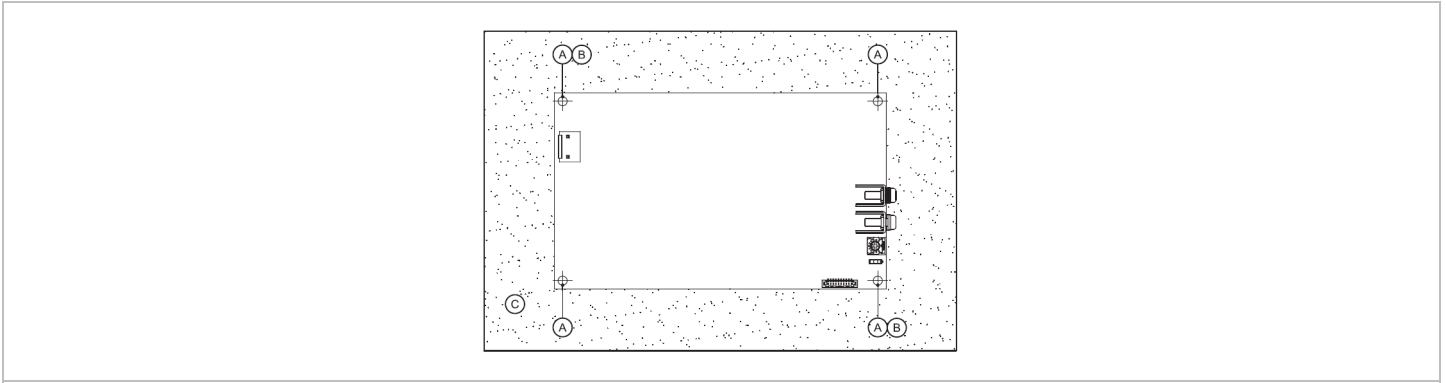
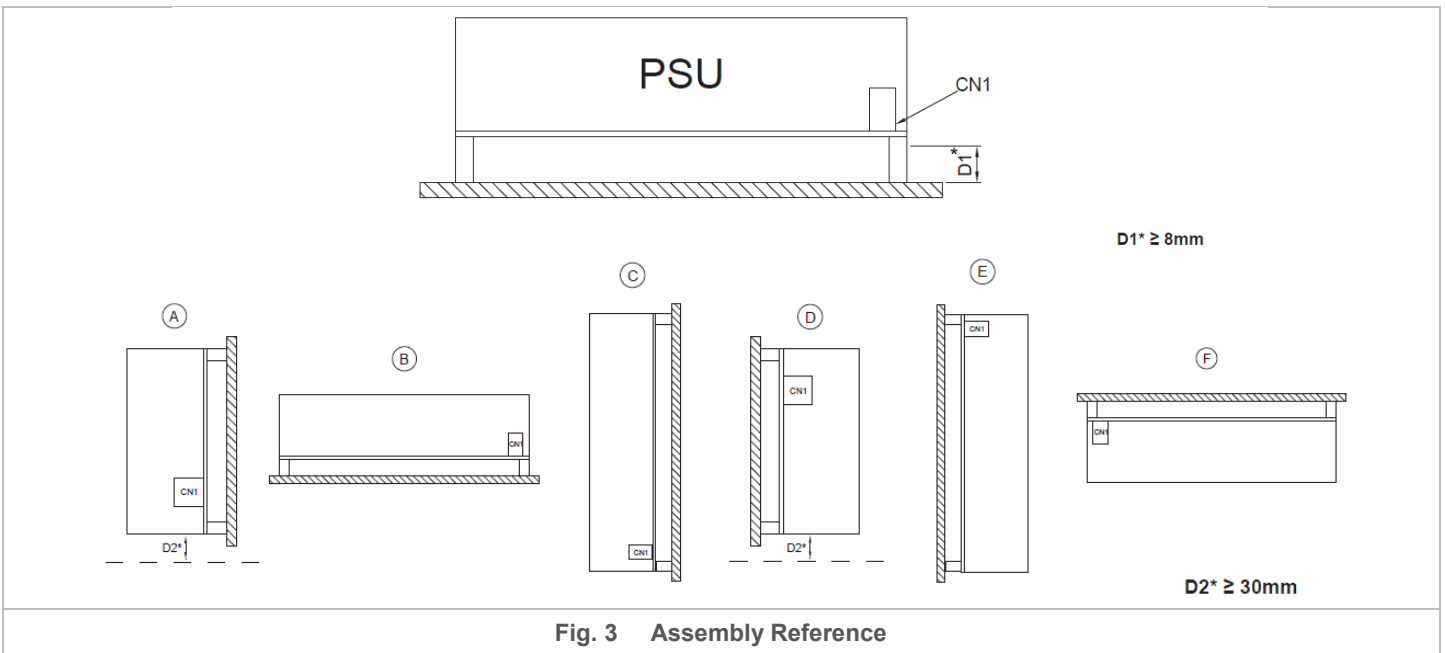

Fig. 2 Installation of the Device
Fig. 3 Assembly Reference
- Please insert an insulation sheet between the system and product, if the safety distance is < 8 mm (0.31 inch) for D1 (Refer to Fig. 3 Assembly Reference)
- For (A), (D) orientations, ensure sufficient convection cooling, always maintain a distance of  $\geq 30$  mm (1.18 inch) for D2 below the device while the device is in operation.
- For Protection against shock to Class I with PE (protection earth) and Class II with or without FG (functional ground) product, the two mounting holes (marked (B) in Fig. 2) need to be connected together to the system's protective earth or functional ground. Pollution degree and EMC performance with different connections please refer to environment and EMC section.